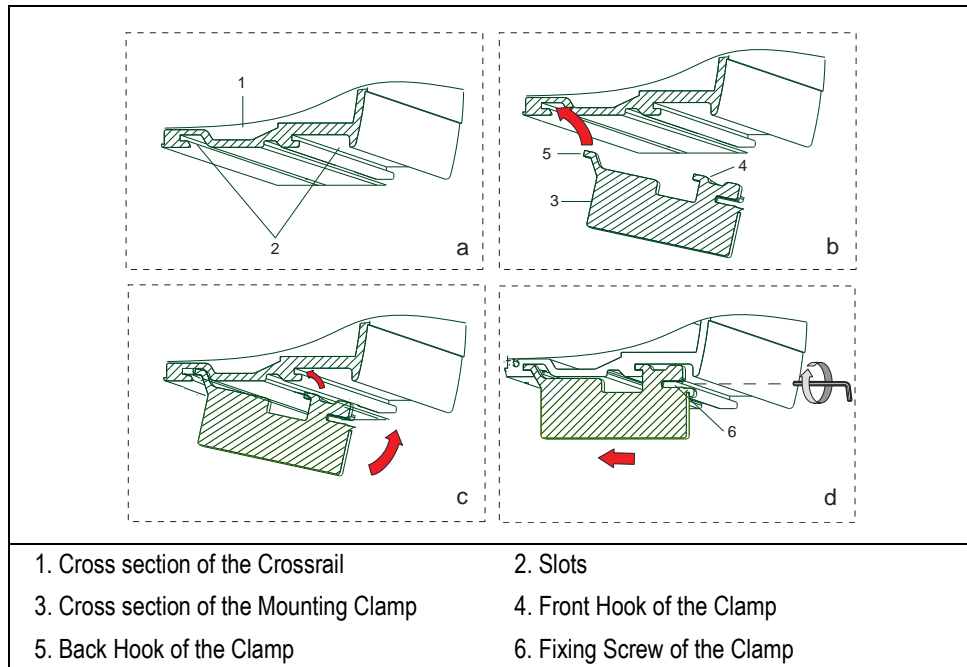

Figure 4-31. Hooking Sequence of the Clamp (2)
1. Slightly tilt the component downwards in a way that the back hook of the clamp, present on the top, enter the proper slot. See **b** of Figure 4-31.
2. Straighten the component so that also the front hook of the clamp enters the proper slot parallel to the previous one. See **c** of Figure 4-31.
3. Slightly push the component backwards in a way that the clamp hooks result perfectly anchored. See **c** and **d** of Figure 4-31.
4. Tighten the fixing screw located behind the clamp. See **d** of Figure 4-31.